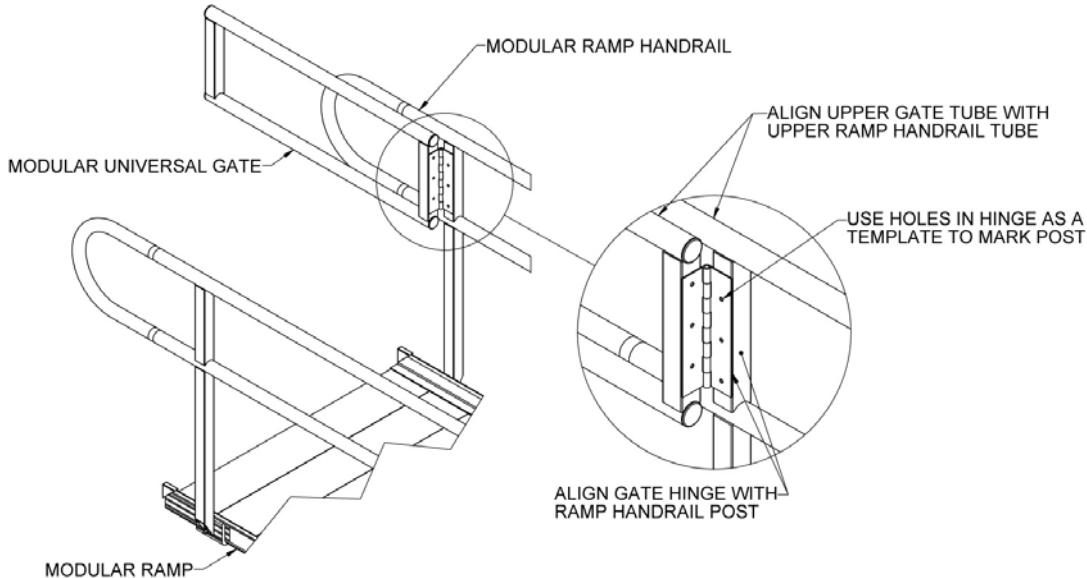

FIG. 2
- 2.3. Use the holes in the hinge as a template and mark the locations with a pencil or similar marker. Drill three 5/16" holes through the post at the marked locations (FIG. 2).